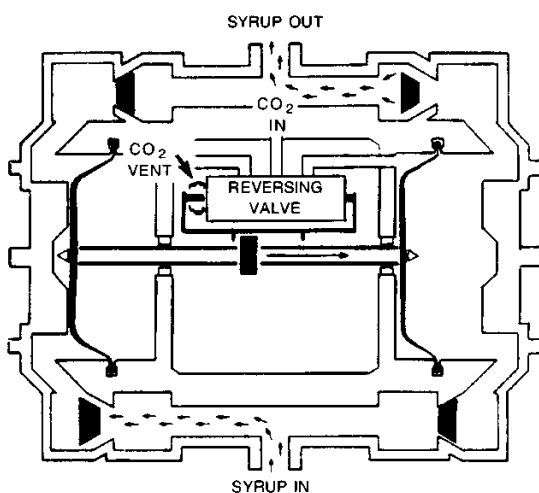

Figure 1
- A. When the system demands syrup for dispensing, gas pressure enters the reversing Valve and is directed to the Gas Chamber on the right, while the Gas Chamber on the left is allowed to exhaust gas. This causes the Diaphragm Assembly to move to the right (see Figure 1).